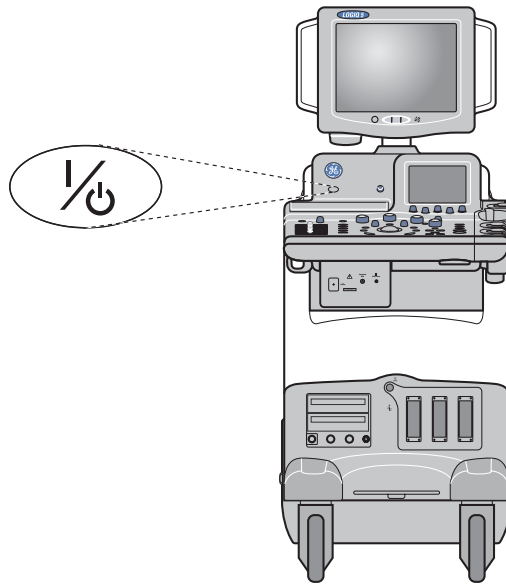

Figure 3-15 Power On/Off Standby Switch Location
- 1.) Press the **ON/OFF** key at the front of the System for about two (2) seconds. Refer to Figure 3-15 on page 3-12 .